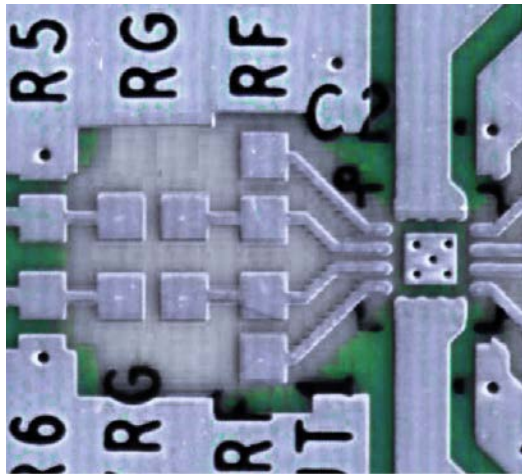

Figure 55. Ground and Power Plane Voiding in Vicinity of RF AND RG
The first requirement is a solid ground plane that covers as much of the board area around the ADA4927-1 as possible. However, clear the area near the feedback resistors (RF), gain resistors (RG), and the input summing nodes (Pin 2 and Pin 3) of all ground and power planes (see Figure 55). Clearing the ground and power planes minimizes any stray capacitance at these nodes and prevents peaking of the response of the amplifier at high frequencies. Whereas ideal current feedback amplifiers are insensitive to summing node capacitance, real-world amplifiers can exhibit peaking due to excessive summing node capacitance.